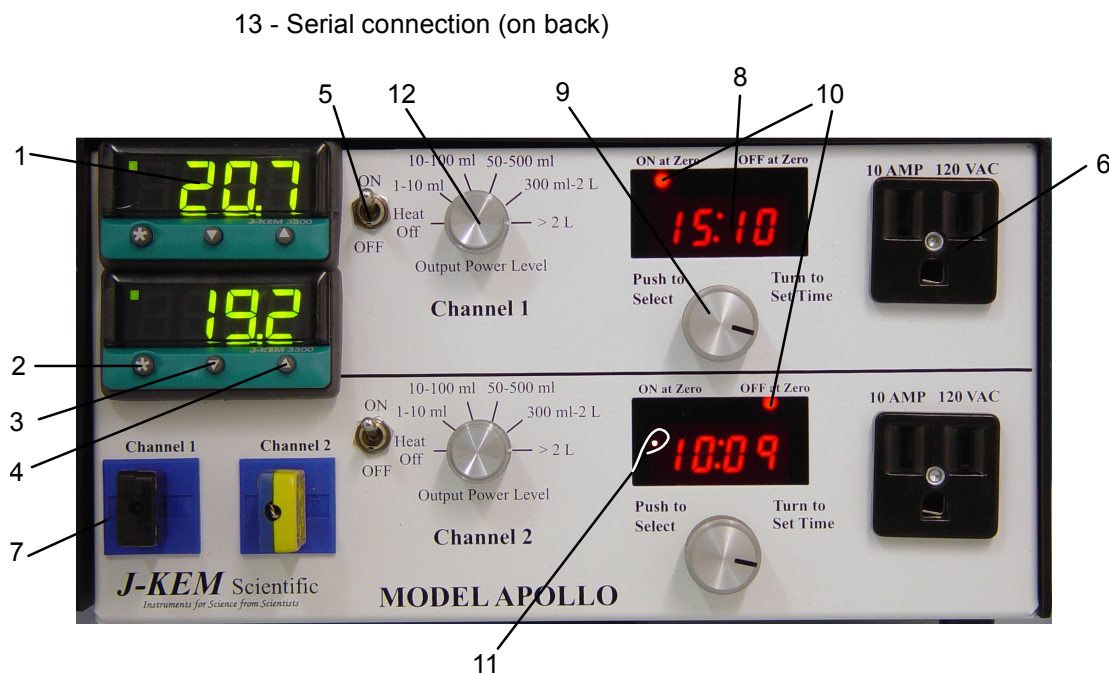

Figure 1
3.4 Temperature Sensor Input. Every controller is fitted with a specific *type* of thermocouple input and can only be used with a thermocouple of the same type. For the correct temperature to be displayed, the thermocouple type must match the receptacle type on the front of the controller (Figure 1; # 7). All thermocouples are color coded to show their type (Blue = type T; Yellow = type K; Black = type J). The color of the thermocouple plug must match the color of the receptacle on the front of the controller. If the thermocouple is broken or becomes unplugged, the error message "inPt" "FAiL" blinks in the temperature meter display and the controller stops heating.